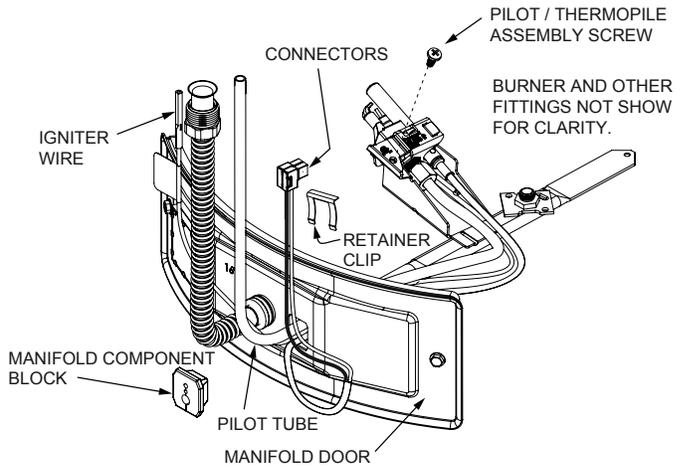

FIGURE 42.
3. Remove the screw securing the pilot/thermopile assembly to the pilot bracket and keep for reuse later (Figure 42).
4. Lift the retainer clip straight up from the back of the manifold component block (using a flat-blade screwdriver), then remove the manifold component block from the manifold door (Figure 42). **IMPORTANT:** Be careful not to bend or alter the position of the pilot tube. It will be used as a bending template for the new pilot assembly. Note the placement/order of the wires in the manifold component block.
7. Route the new pilot tube and wires through the opening in the manifold door. See Figure 42.